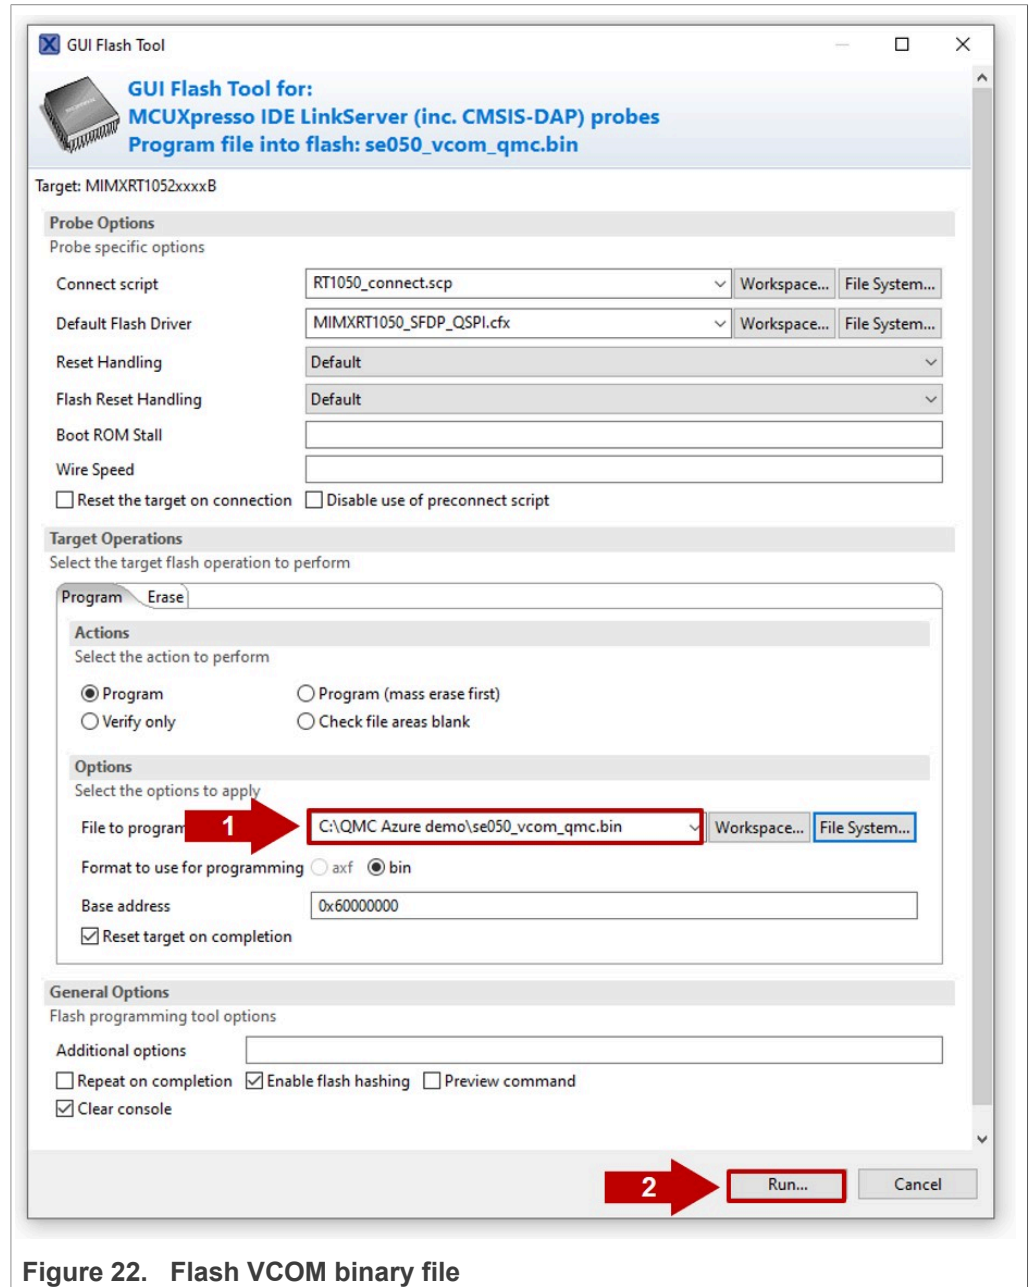

Figure 22. Flash VCOM binary file
- 4. Now, flash the `se050_vcom_qmc.bin` binary by clicking the "Run" button, as shown in Figure 22: